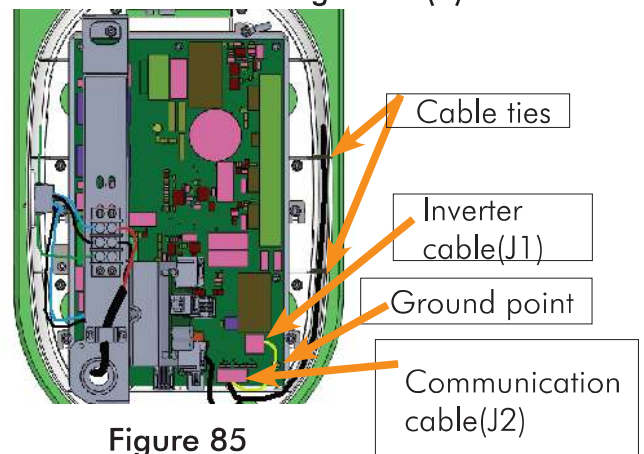

Figure 85
- Connect the Inverter power cable from J1 connector(Non-polarised) using screw driver and communication cable to J2 connector on the power board as shown in Figure 85 .
- Fix the GND wires of both the cables by fixing M3x6 Hex. socket head cap screws using 2.5mm allen key as shown in Figure 85 .
- Route the cables as shown in Figure 85 on the right inner side of the Base Unit. Use new Cable ties to fix the cables on the existing cable mounts & cut the extra length of cable ties using a cable tie cutter.